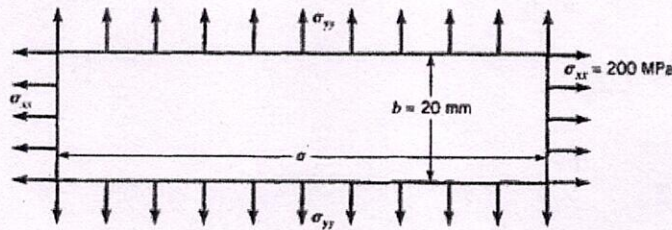

Figure 6
**Q.7** An airplane wing spar, see Figure 6, is made of an aluminum alloy ( $E = 72 \text{ GPa}$  and  $\nu = 0.33$ ), and it has a square cross-section perpendicular to the plane of the figure. Stress components  $\sigma_{xx}$  and  $\sigma_{yy}$  are uniformly distributed as shown. Note: Spars are long beams that provide most of the strength in an aircraft wing. They run from the wing root to the wing tip.